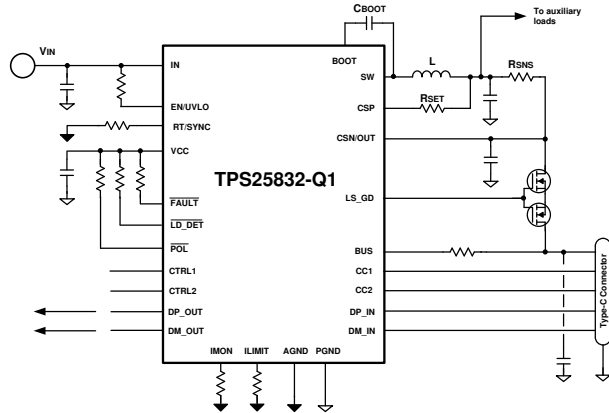
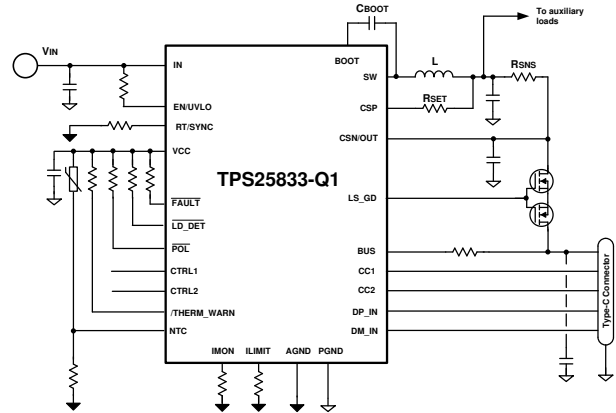

图 53. TPS25832-Q1 Current Limit with External MOSFET
图 54. TPS25833-Q1 Current Limit with External MOSFET
- With external MOSFET 图 53, 图 54:
The TPS2583x-Q1 has integrated NFET gate drivers, and can support current limit with external NFET. Refer to 图 53.